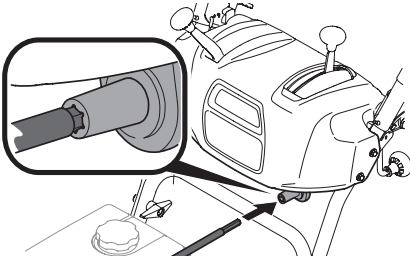

Figure 30
- Models with Overhead Rotational - Insert hex end of flex shaft into chute control rod coupling under handle panel (Figure 30).